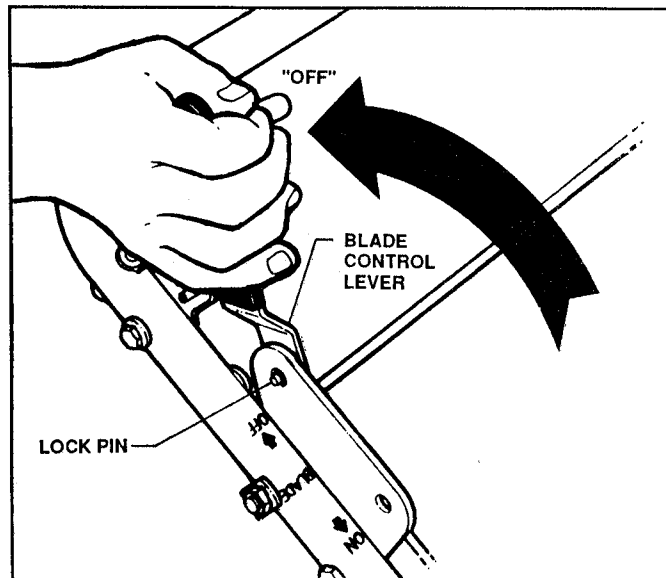

FIGURE 4
MOWER BLADE: *STOP MOWER BLADE* by moving BLADE CONTROL lever to the left and pulling back until it locks in the "OFF" position. See Figure 4.
1. MOVE BLADE CONTROL lever to OFF position so that interlock will allow engine to start. Refer to Figure 4.
STOP MOWER BLADE by moving BLADE CONTROL lever to the left and pulling back until it locks in the "OFF" position. See Figure 4.